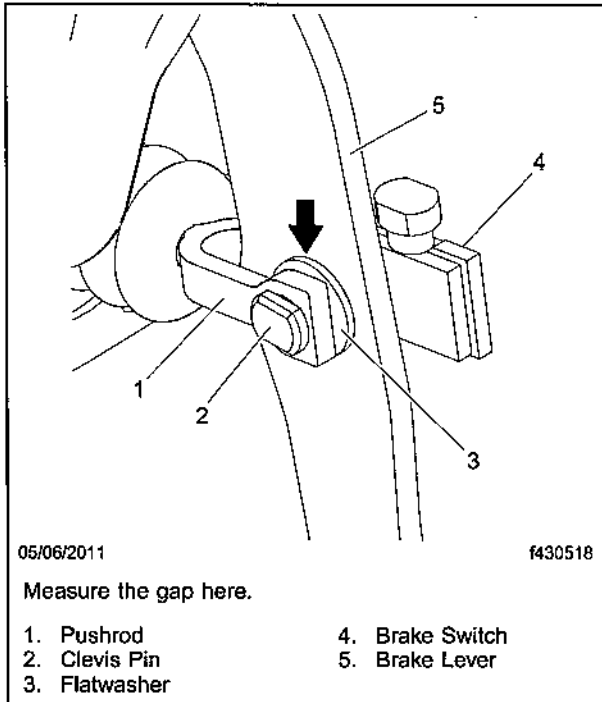

Fig. 3, Brake Switch Installation (fixed pedal shown)
4. Install the new clevis pin, flatwashers, brake switch, and hitch pin from the kit. Make certain one flatwasher is between the pushrod and the brake lever as shown in Fig. 3.
5. Using a feeler gauge, measure the space between the flatwasher and the brake pedal as shown in Fig. 3.